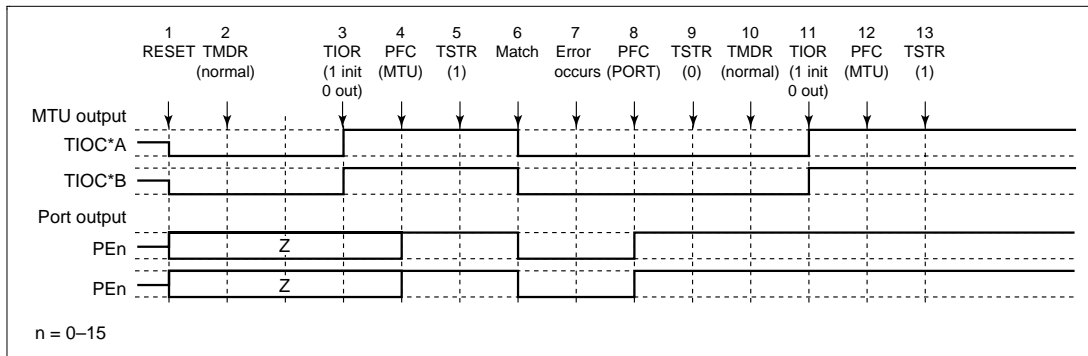

Figure 10.61 Error Occurrence in Normal Mode, Recovery in Normal Mode
(1) Operation when Error Occurs during Normal Mode Operation, and Operation is Restarted in Normal Mode: Figure 10.61 shows an explanatory diagram of the case where an error occurs in normal mode and operation is restarted in normal mode after re-setting.
1 to 9 are the same as in figure 10.61.